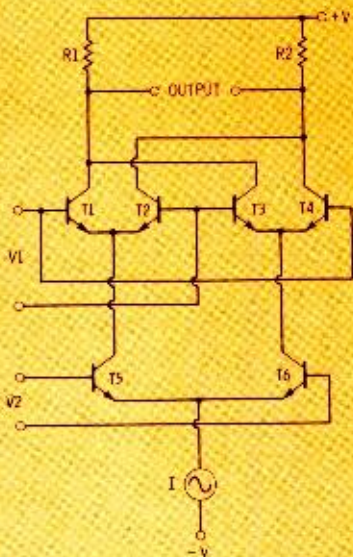

Fig. 1 A doubly balanced modulator.
To illustrate this let me describe two examples. The first one is the doubly-balanced modulator, illustrated in Figure 1. A current source (I) feeds the emitters of transistors T_5 and T_6 . Depending on the polarity and the magnitude of the lower input signal, V_2 , T_5 or T_6 receive a portion (or all) of the current I.
Such a current source is not only useful to bias other circuitry (such as the circuit in Figure 1), but also it has led to a host of new circuits for timing, waveform generation, or integration.